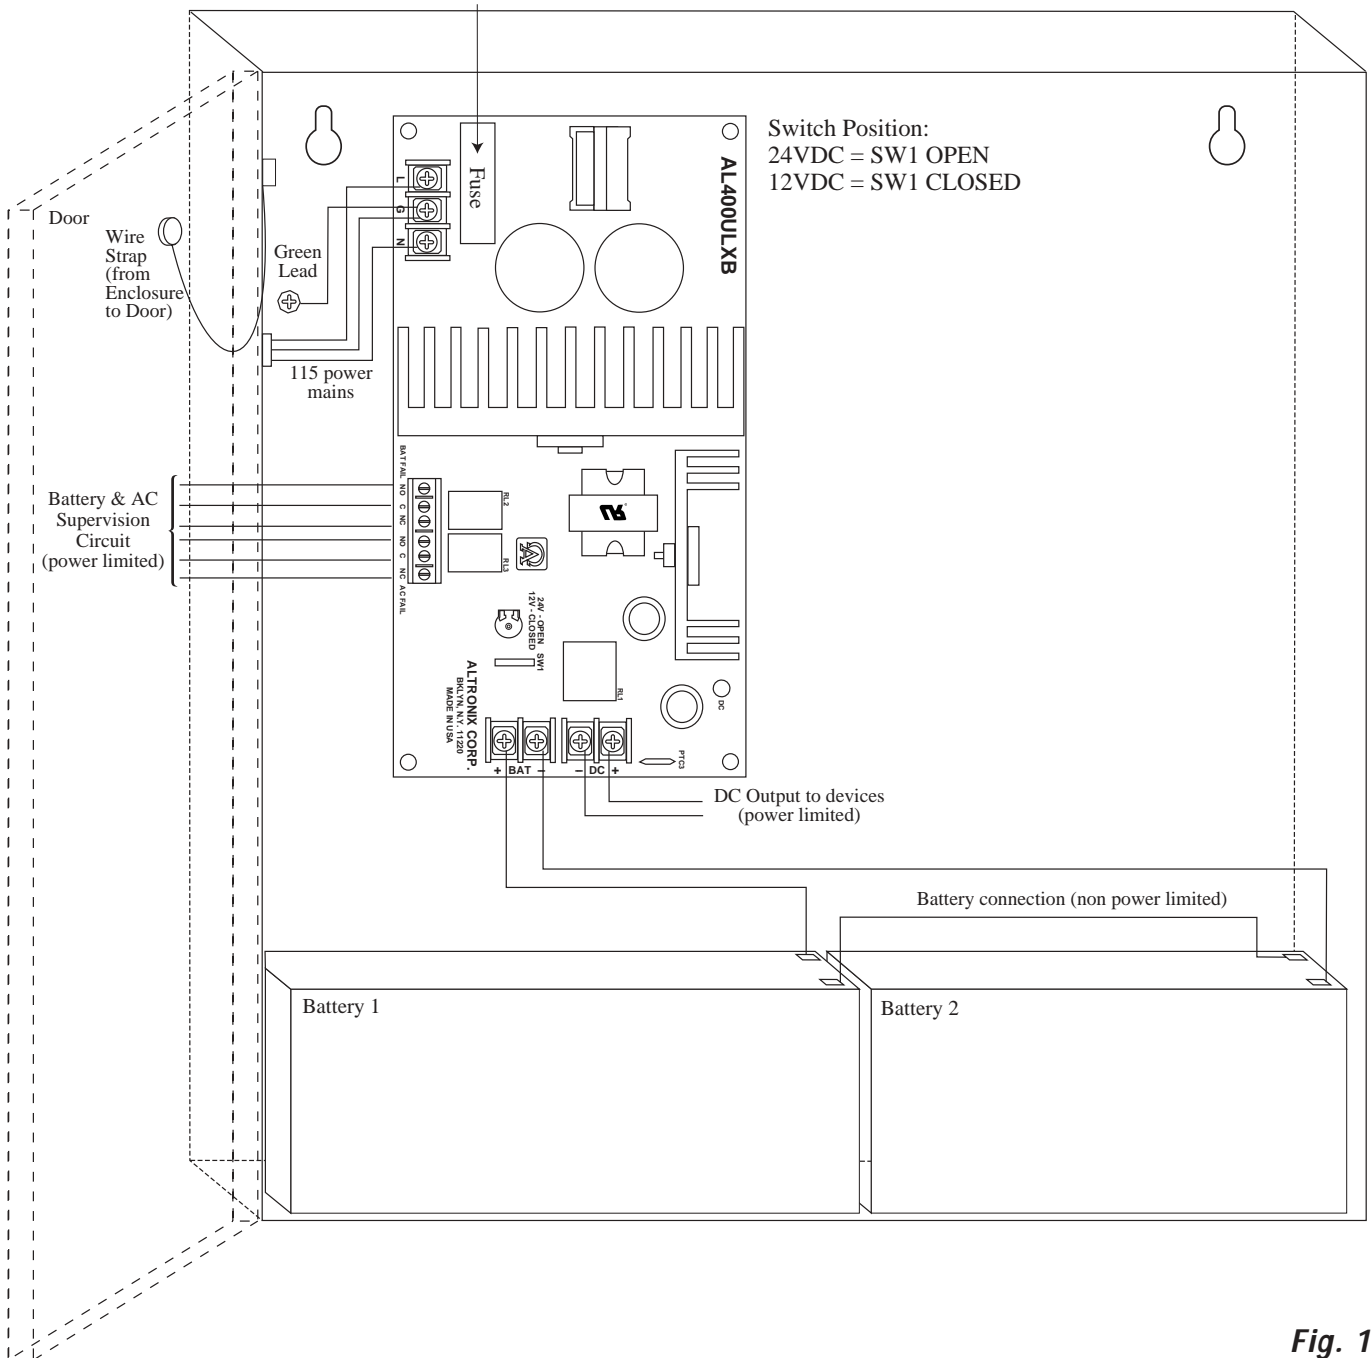

Fig. 1
2. Set the AL400ULX to the desired DC output voltage by setting SW1 (Fig. 1) to the appropriate position (see power supply voltage output selections chart).
3. Connect AC power (115VAC 50/60Hz) to terminals marked [L, G, N] (Fig. 1). Use 18 AWG or larger for all power connections (Battery, DC output, AC input). Use 22 AWG to 18 AWG for power limited circuits (AC Fail/Low Battery reporting).
4. Connect devices to be powered to terminals marked [-DC +] (Fig. 1).
Connect battery to terminals marked [+ BAT -] (Fig. 1). Use two (2) 12VDC batteries connected in series for 24VDC operation (battery leads included).
6. Connect appropriate signaling notification devices to AC FAIL & BAT FAIL (Fig. 1) supervisory relay outputs.